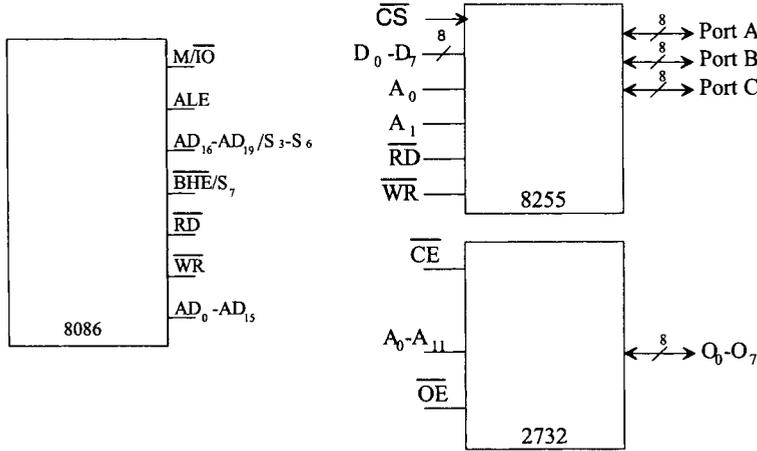

FIGURE P9.28
- 9.28 Interface two 2732 and one 8255 odd to an 8086 to obtain even and odd 2732 locations and odd addresses for the 8255's port A, port B, port C, and control registers. Show only the connections for the pins shown in Figure P9.28. Assume all unused address lines to be zeros.